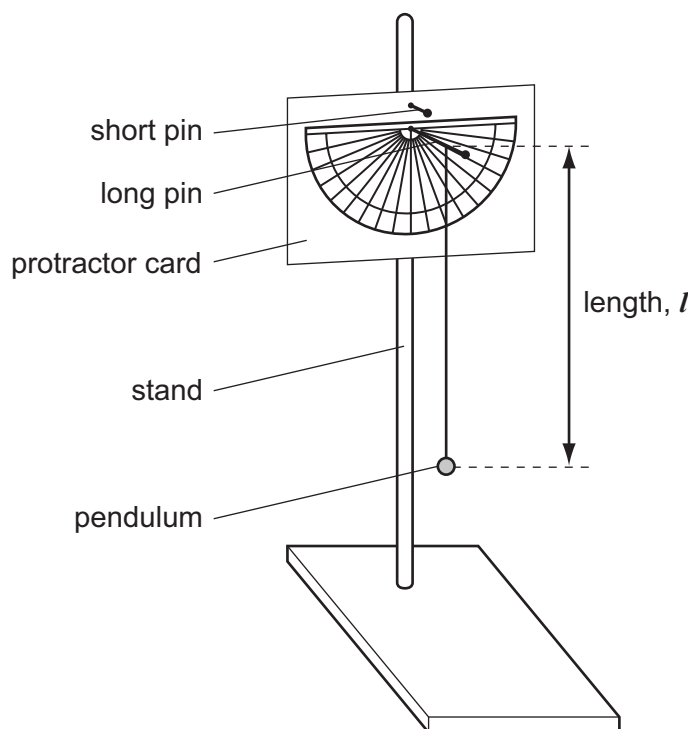

Fig. 3.1
- (a) Set up your pendulum as in Fig. 3.1, using the apparatus provided, such that the length, l , is 30 cm.